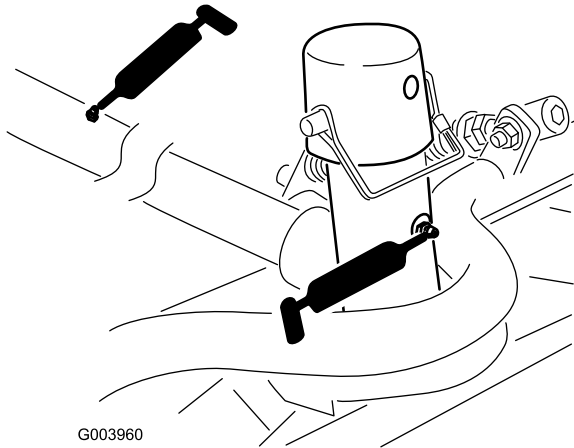

Figure 54
- Cutting unit carrier frame and pivot (2 each) (Figure 54)